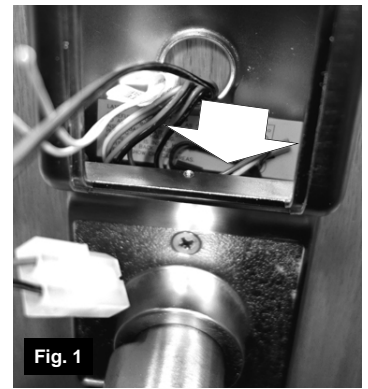
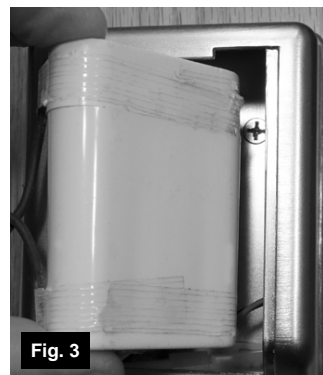

Fig. 1
Fig. 3
3. Inside the rear housing, locate and take hold of the two white "Remote Input" wires and the disconnected battery plug connector. Push all other wires and the motor wire into the bottom "cavity" of the rear housing (**Fig. 1**).
8. After pairing, make room inside the housing for the battery pack: Before replacing the battery pack, carefully push all of the remaining wires that are inside the housing down into the "cavity" shown in **Fig. 1**. Replace the battery pack by **placing the right side of the battery pack into the housing first** (see **Fig. 3** and **Fig. 4**).